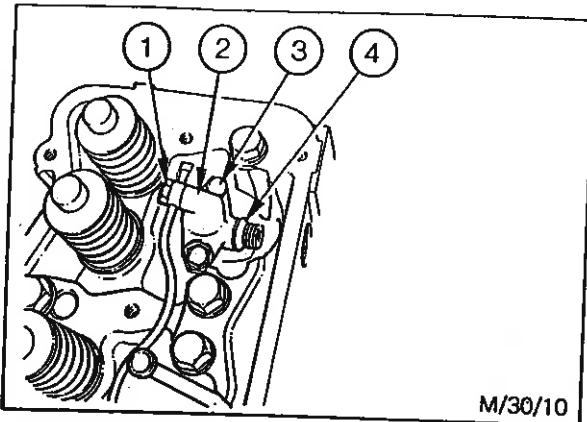

Fig. 18 - Removing Injectors
**REMOVING INJECTORS** - Refer to Fig. 18